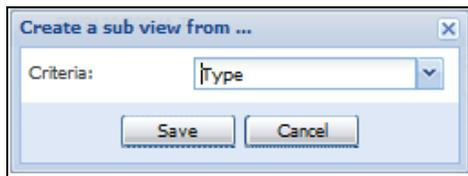

Figure 166. Select Type
2. Right-click and select Create a sub view from (see Figure 166).